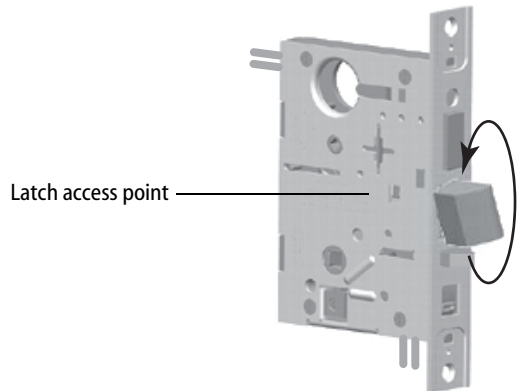

Figure 8 Rotating the latchbolt
- If you need to rotate the latchbolt, insert a flat blade screwdriver into the latch access point approximately 1/2" into the case and press to extend the latch out of the case. See Figure 8.